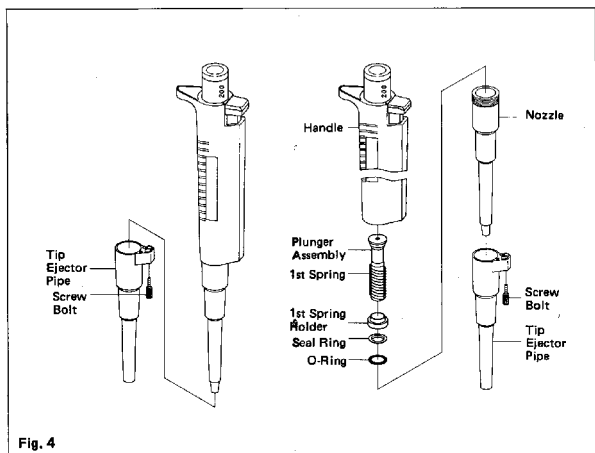

Fig. 4
2. Unscrew the barrel assembly from the handle and carefully pull directly away from the handle. The plunger assembly and spring can be removed from the pipette. Refer to Figure 4 for the internal configuration of the specific size MODEL 5000 being serviced. Take special care not to bend the piston rod, especially in the smaller volume units.
4. Reassemble the unit by reversing the above procedures. Refer to Figure 4 when reassembling to ensure that all parts are placed in the correct position.